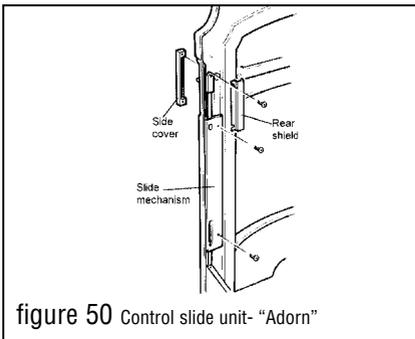

figure 50 Control slide unit- "Adorn"
- 15.5.1 Detach the slide side cover and rear shield by removing two screws from the rear upper side of the front casting (See fig. 50).
- 15.5.2 Remove two screws securing the plastic slide mechanism box to the rear side of the front casting (See fig. 50). Lift the slide unit clear.